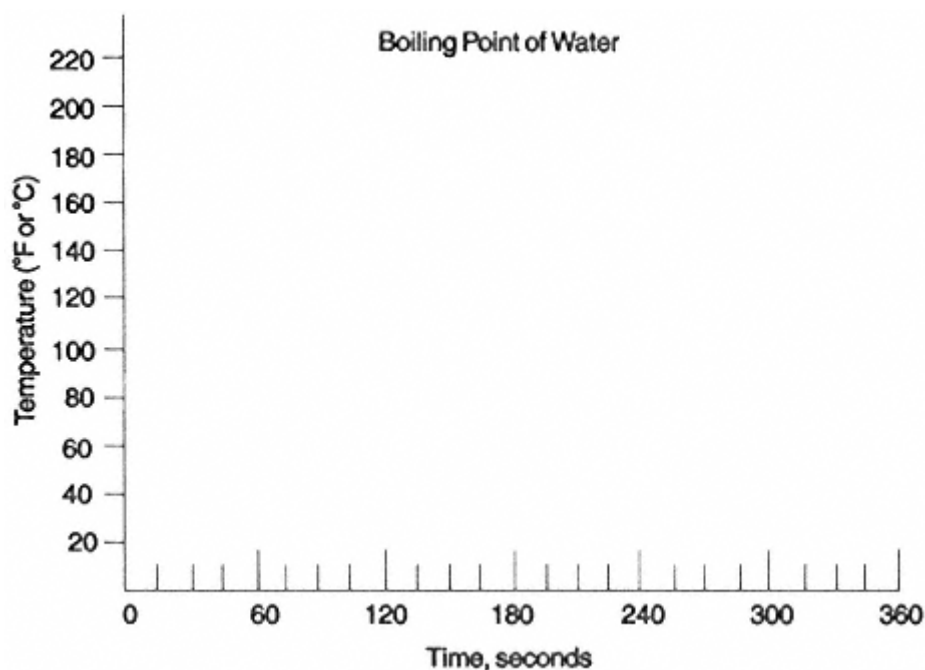

Figure 13.2
8. Plot the results on a graph with the temperature on the vertical axis and the time on the horizontal axis (see Figure 13.2).